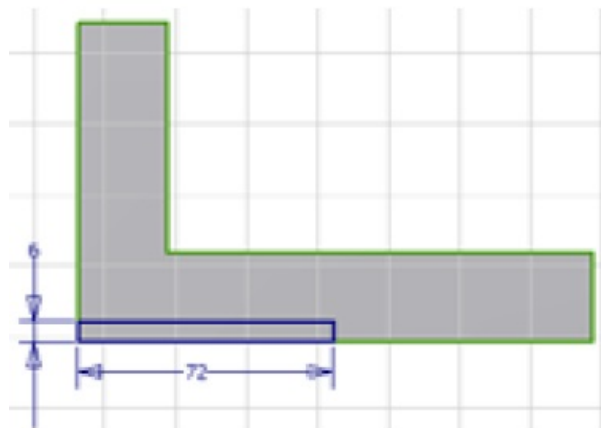

Figure 5-91 Sketch for the cut feature
- b. Define a new sketch plane on the front face of the model and create a cut feature, refer to Figures 5-91 and 5-92.
3. Next, add required constraints and dimensions to it. The dimensioned sketch is shown in Figure 5-91.